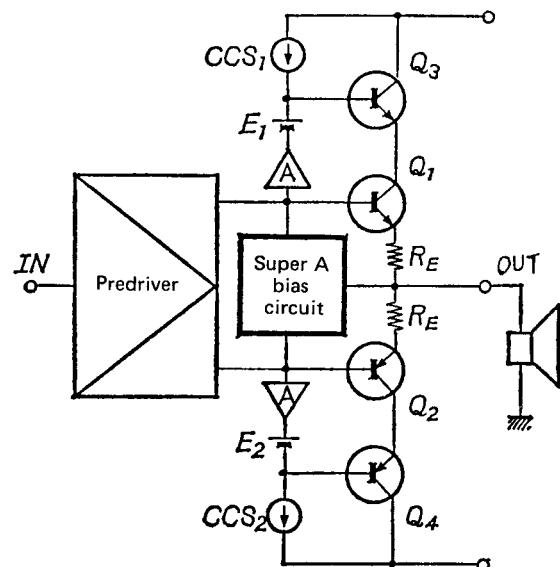

Fig. 6 Power cascode super A circuit
(3) Power cascode super A circuit (super A + feed forward system cascode circuit)
**Fig. 6** shows a basic configuration of the power cascode super A circuit.
The supply voltage change is absorbed by  $Q_3$  and  $Q_4$  (see Fig. 6) so that  $Q_1$  and  $Q_2$  which determine the output characteristic are free from the effect of the supply voltage change.